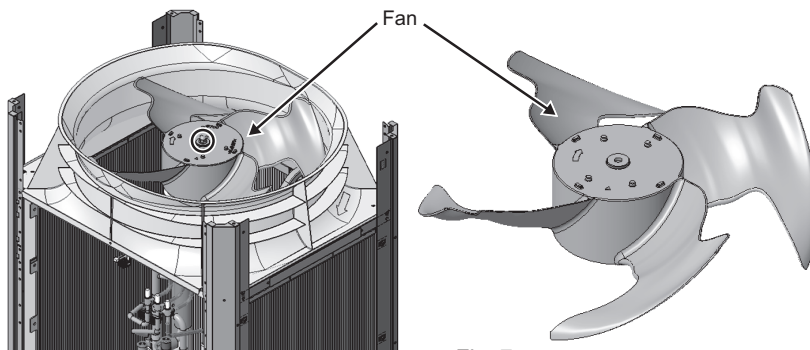

Fig. 7
- (7) Remove the fan. (One nut: Fig. 7)